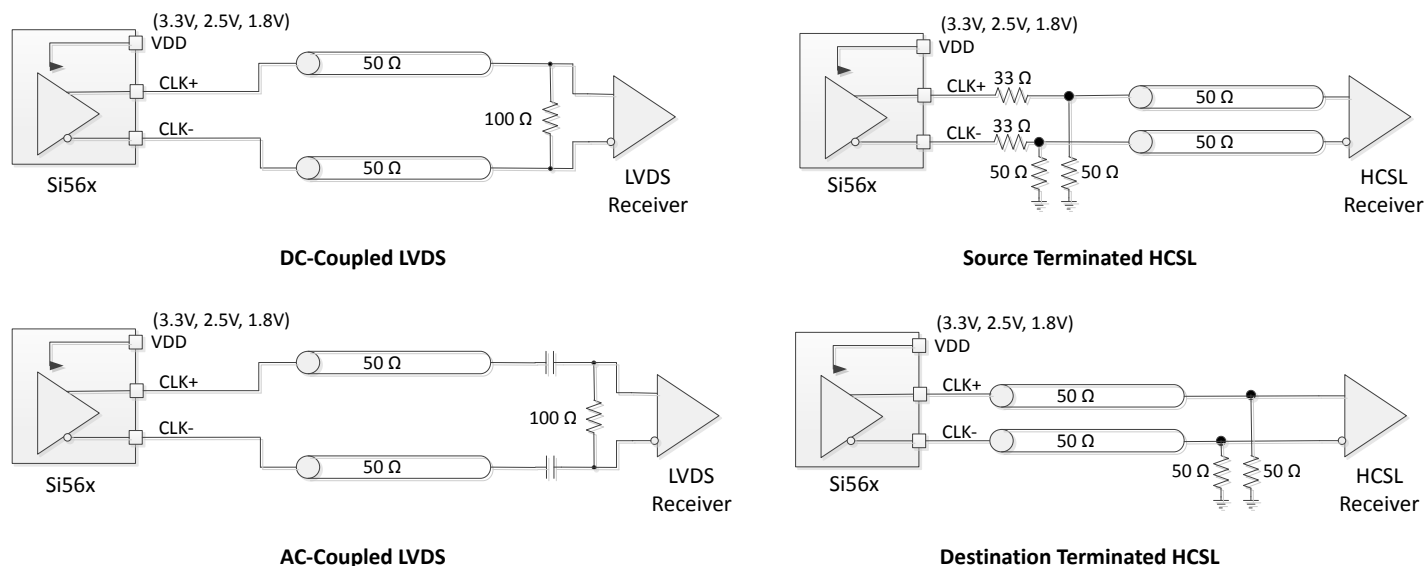

Figure 4.2. LVDS and HCSL Output Terminations
4. $R_{term} = 100 \Omega$ (differential) (see Figure 4.2).
5. $R_{term} = 50 \Omega$ to GND (see Figure 4.2).